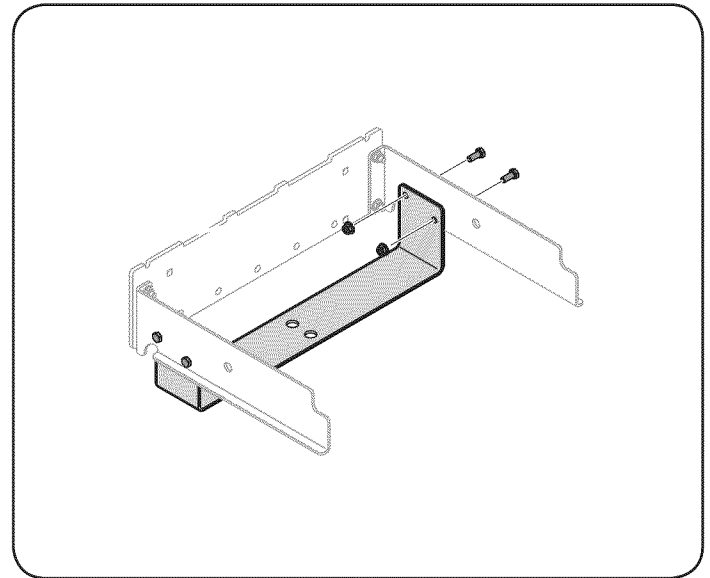

Figure 2
3. Flip over assembly and mount the hitch support bracket to the mounting assembly using four 710-3008 hex bolts and 712-04063 flange lock nuts from hardware pack 689-00097. See Fig. 2 for proper orientation.